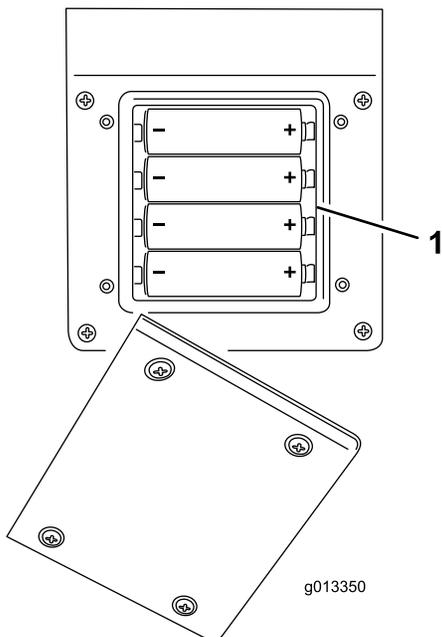

Figure 48
3. Plug each fresh battery into a terminal cradle observing proper polarity. (If the batteries are improperly installed, the unit will not be damaged, but it will fail to operate.) The cradle is embossed with polarity markings for each terminal (Figure 48). Make sure they are firmly seated in the unit.